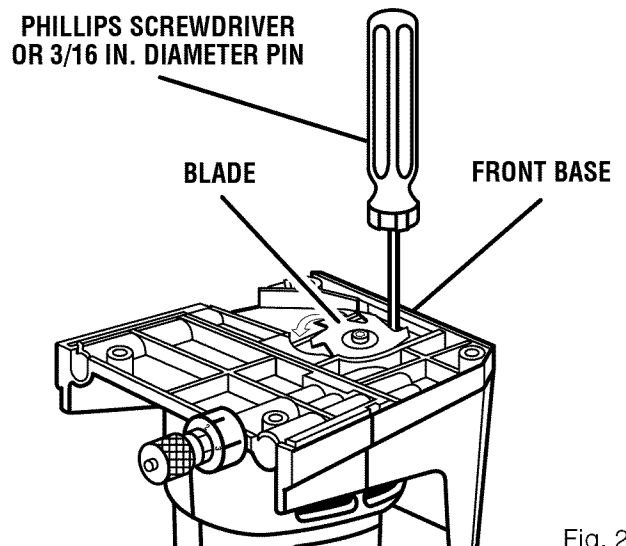

Fig. 25
- Replace the rear base. Position the adjustment rod in its proper place as shown in figure 25.